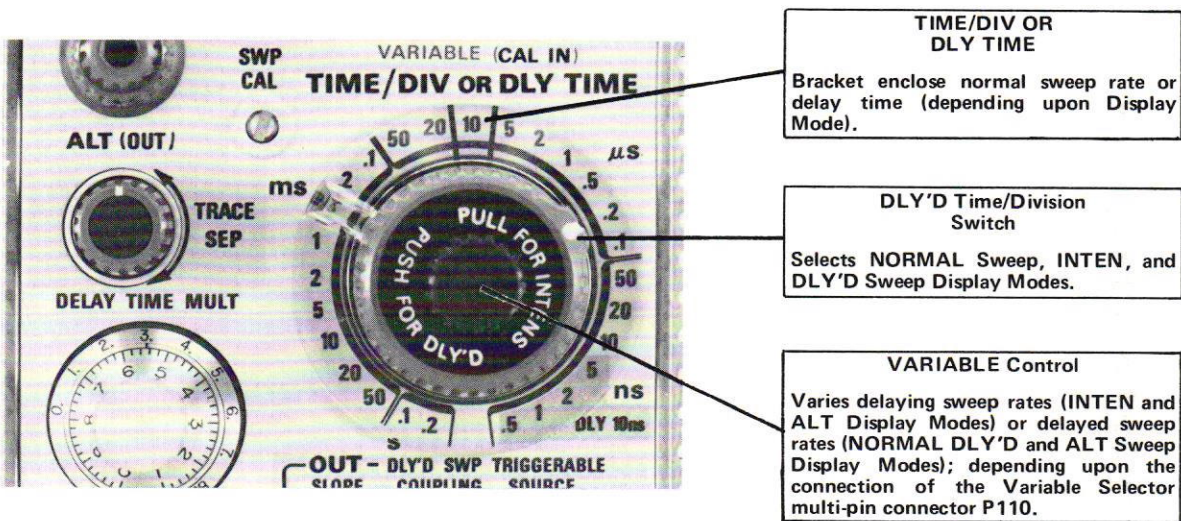

Fig. 1-3. Composite Time/Division switch.
**TIME/DIV OR DLY TIME.** Selects the basic sweep rate for Normal and ALT Sweep operation and selects the delay time (to be multiplied by the DELAY TIME MULT dial setting) when operating in the INTEN or DLY'D Sweep mode (see Fig. 1-3). The VARIABLE control must be in the CAL position for the indicated sweep rate.
**DLY'D Time/Division.** Selects the sweep rate of the delayed sweep generator for operation in the DLY'D Sweep, INTEN, and ALT Sweep Display Modes (see Fig. 1-3). The VARIABLE control must be in the CAL position for indicating the sweep rate.
**VARIABLE.** Two-position switch actuated by the VARIABLE control to select calibrated or uncalibrated sweep rates (see Fig. 1-3). In the CAL position (pressed in) the VARIABLE control is inoperative and the sweep rate is calibrated. When pressed and released, the knob moves out to activate the VARIABLE control for uncalibrated sweep rates. The sweep rate in each TIME/DIV switch position can be reduced at least to the sweep rate of the next slower position. The VARIABLE control can be switched to operate with either the delaying or delayed sweeps by means of the internal Variable Selector multi-pin connector.
**NORMAL Sweep.** A Normal Sweep (non-delayed) is selected when the TIME/DIV OR DLY TIME switch and the DLY'D Time/Division switch are locked together at the same sweep rate (see Fig. 1-3). The DLY'D Time/Division switch and the Delayed Triggering LEVEL control must be pressed in for the Normal Sweep Mode. Calibrated sweep rates from 0.2 second/division to 0.5 nanosecond/division can be obtained.
**INTEN.** The INTEN mode, a function of the delaying and delayed sweeps is selected when the DLY'D Time/Division switch is pulled out and rotated clockwise (see Fig. 1-3). In this mode, a portion of the delaying sweep is intensified during the time that the delayed sweep generator runs.
**DLY'D Sweep.** The DLY'D Sweep Display Mode is selected when the DLY'D Time/Division switch is pulled out, rotated in the INTEN Display Mode for the desired delayed sweep rate, then pushed in (see Fig. 1-3). In this Display Mode, the delayed sweep is displayed, at a rate determined by the DLY'D Time/Division switch, at the end of each delay period, as selected by the TIME/DIV OR DLY TIME switch and the DELAY TIME MULT dial settings.